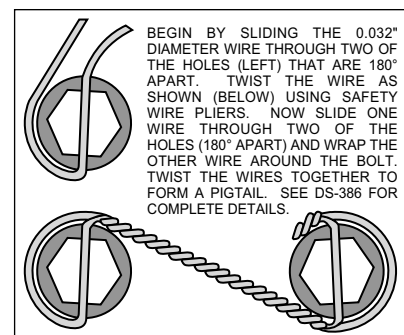

Figure 4. Safety Wire Diagram
- Apply red *Loctite*® 271 to bolt threads (2) before assembly of the caliper bracket (1) to backing plate face of spindle. Position the caliper mounting bracket (1) onto the spindle while positioning spacers (3) between bracket and spindle face. Slip the mounting bolts (2) into the threaded spindle holes, finger tighten. Torque two bolts (2) to 30 ft-lb. **NOTE:** Be sure the heads of the caliper bracket (1) insert nuts are facing outward toward the wheel.
- Install five new wheel studs (4) into the hub (5). Torque to 77 ft-lb. **NOTE:** There are two five lug patterns in the hub (5 x 4.50 and 5 x 4.75). Make sure of the correct hole pattern for the correct wheel application before installing studs into hub.
- Pack the large inner bearing cone (6) with high temperature disc brake bearing grease (available from your local auto parts store) and install into the backside of the hub (5).
- Install the grease seal (7) by pressing into the backside of the hub (5).
- Attach rotor adapter (8) to rotor (9) using six bolts (10). Torque bolts (10) to 180 in-lb. Safety wire bolts (10) using standard 0.032 inch diameter stainless steel safety wire as shown in Figure 4. Please refer to Wilwood's data sheet DS-386 (available at www.wilwood.org/ds386.pdf) for complete safety wire installation instructions.